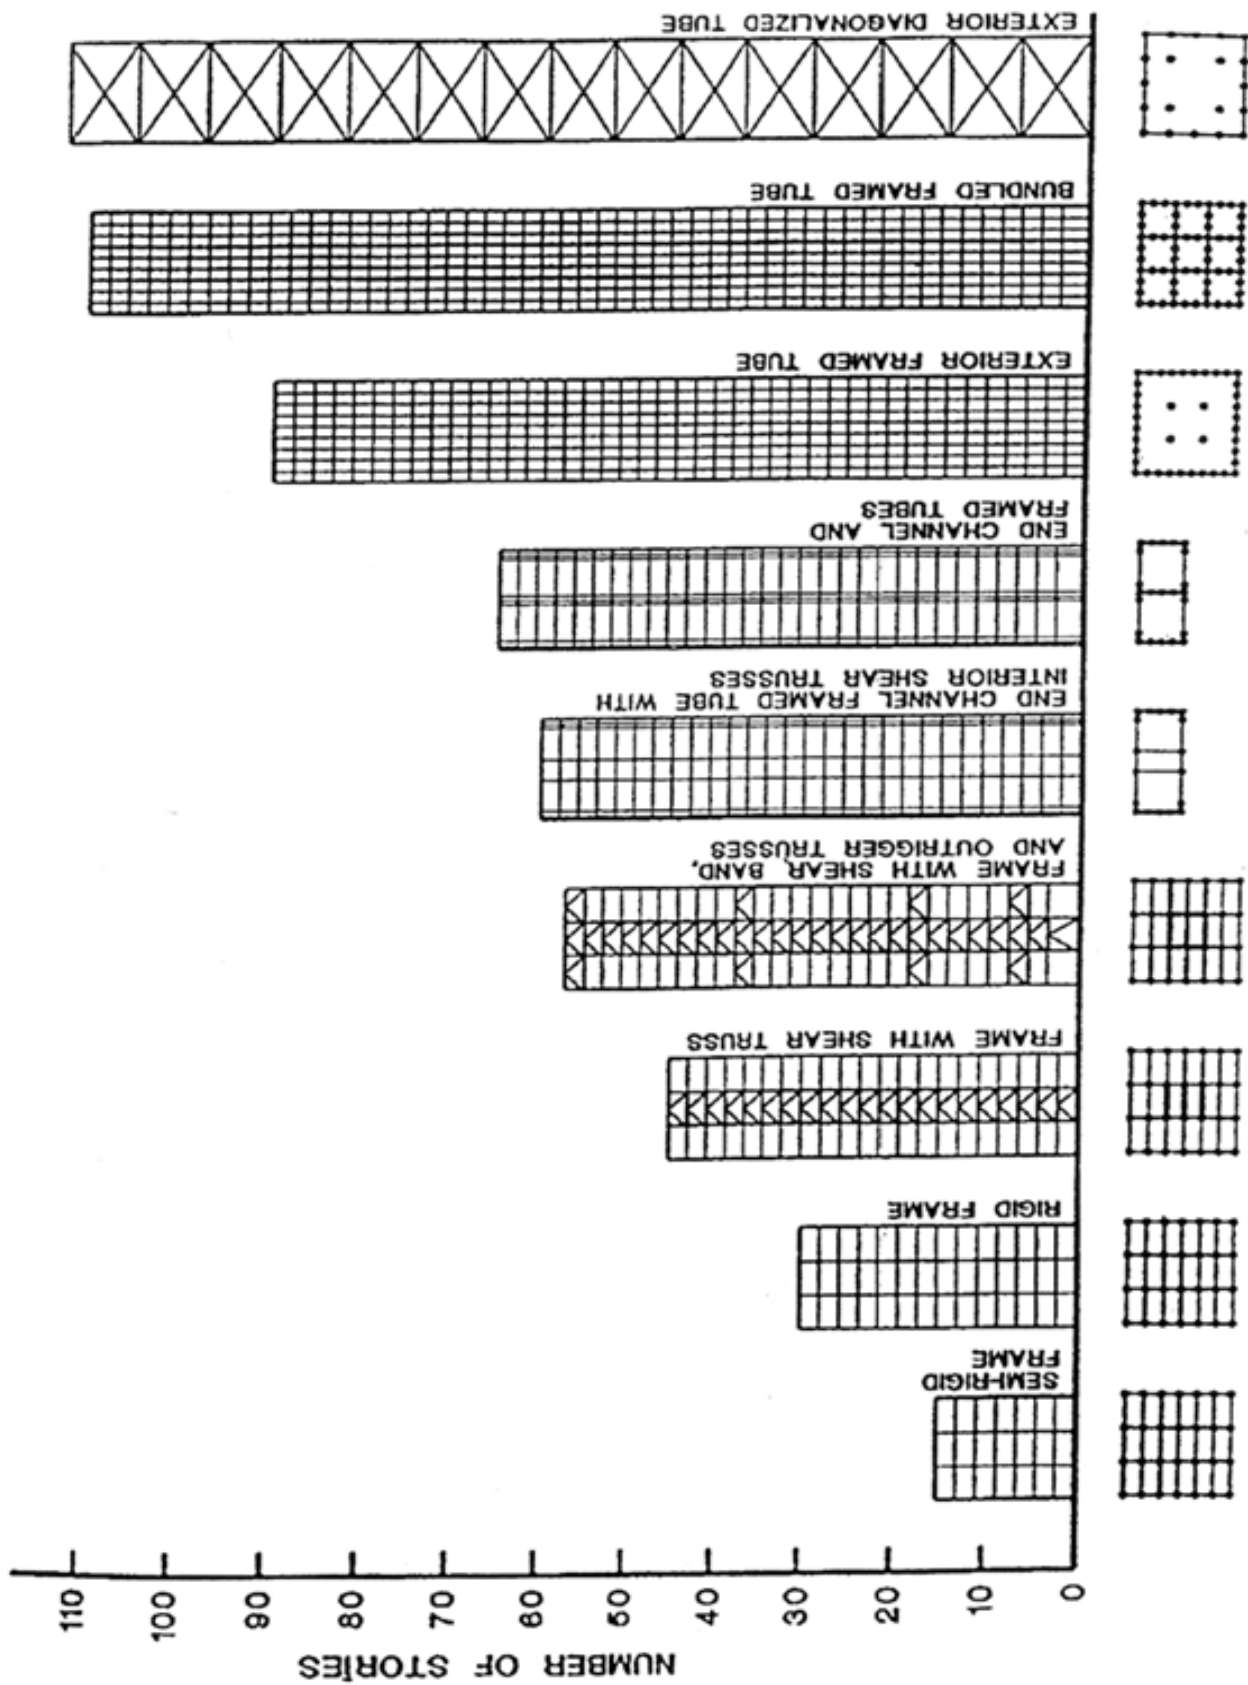

Figure 1.5 Categorization of Tall Building Systems.
Figure 1.5 shows a chart which defines, in general, the limits to which a particular framing system can be used efficiently for multi-storey building projects. The various structural systems in Fig. 2.5 can be broadly classified into two main types: (1) medium-height buildings with shear-type deformation predominant and (2) high-rise cantilever structures such as framed tubes, diagonal tubes and braced trusses. This classification of system forms is based primarily on their relative effectiveness in resisting lateral loads.